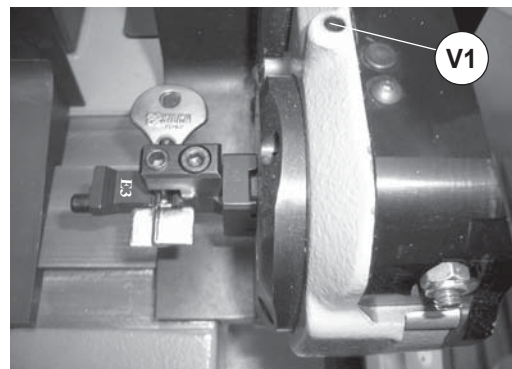
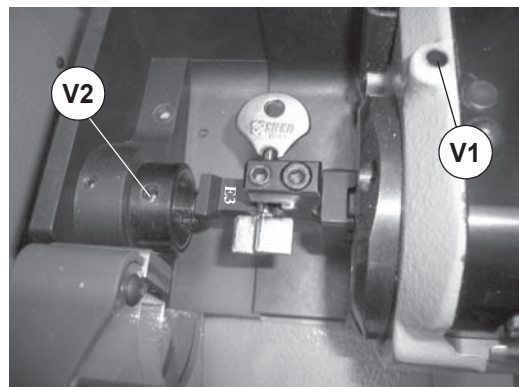

Fig. 41
Fig. 42
- 2) Take the 'T' wrench (T4) from its seat and fit into the screw (V1), then loosen until the jaws are fully open. At the end of the operation do not remove the 'T' wrench from the screw (fig. 41).
- 3) Fit the key blank into the **E3** adapter, paying attention to its position (fig. ), then tighten the screw (P).
- 6) Tighten the knob (T1). Use the 'T' wrench (T4) to tighten the screw (V1) first, then the screw (V2) (fig. 42). Replace the T wrench (T4) into its seat, lower the mobile safety shield and begin the process with START.